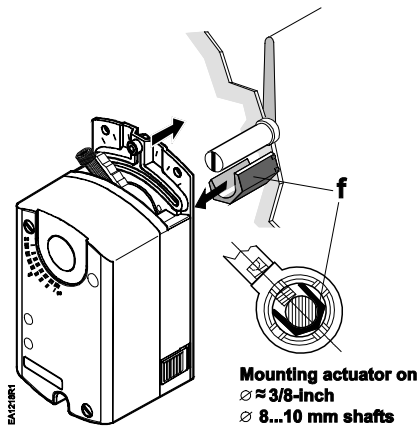

Figure 3. Mounting 3/8-inch shaft insert.
2. Orient the 3/8-inch (8 to 10 mm) shaft insert so that the raised tabs will be inserted last, and then place the shaft insert into the back of the actuator (Figure 3).